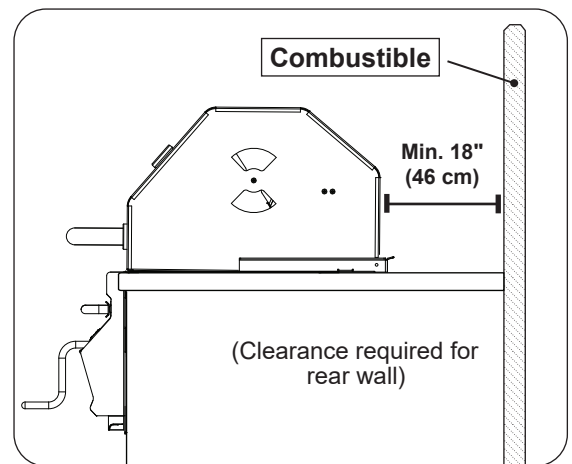

Fig. 8-2 Clearance 'B' Diagram
- The unit must have a minimum clearance of 18" (46 cm) from the combustible rear wall (see Fig. 8-2).